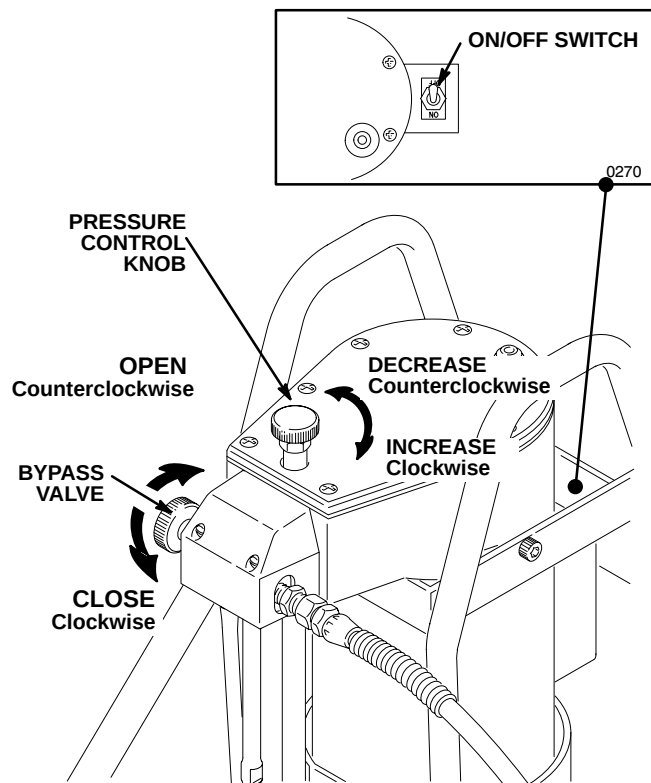

Fig 9
- 4 With the bypass valve closed, turn on the sprayer, trigger the gun into the flushing pail and allow the solvent to circulate through the hose and gun for two to three minutes, using the lowest possible pressure. See Fig 9.